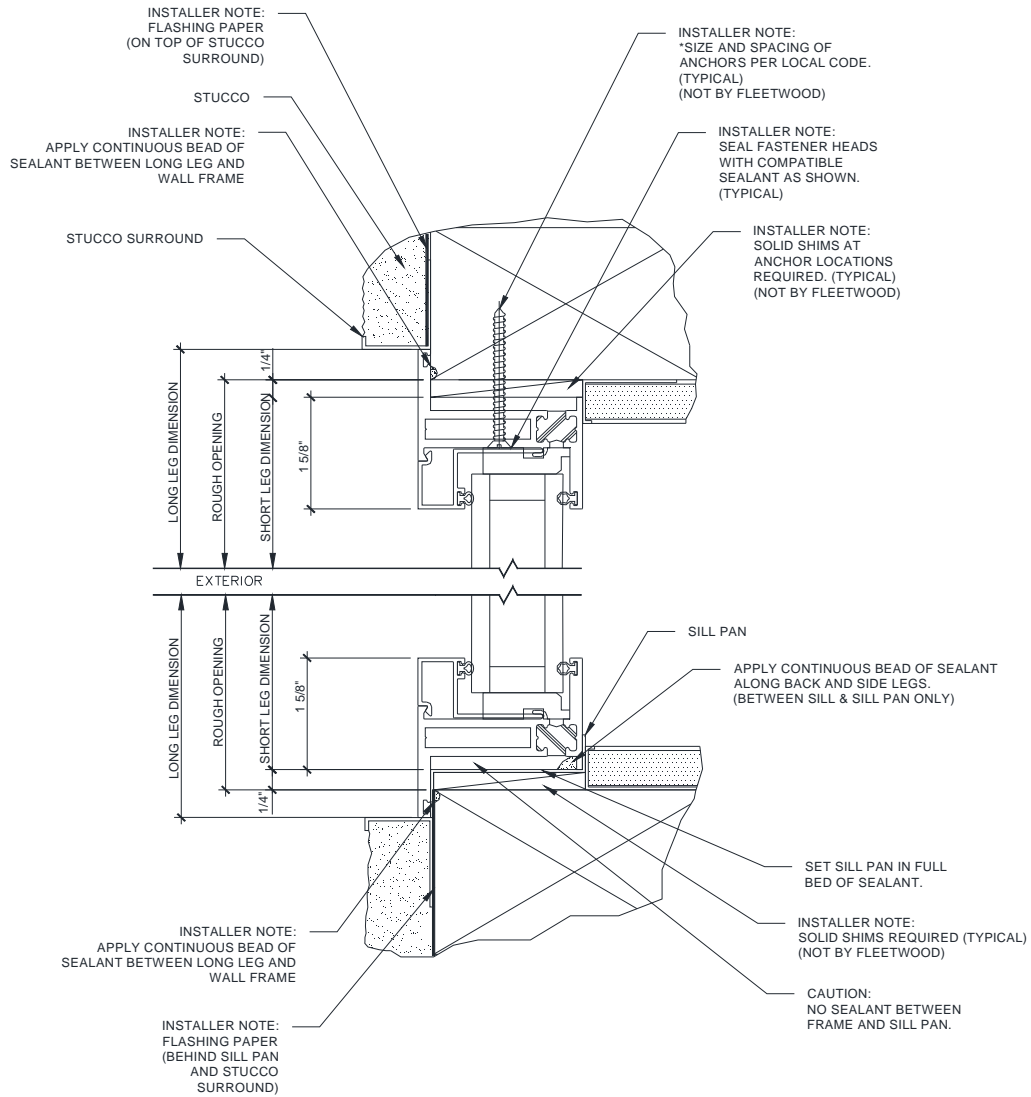

Figure 10:
- Apply a continuous bead of sealant along the back and short leg between the sill and sill pan, and around the entire window frame along the long leg (Figure 10, page 8). Then insert the frame into the opening. Cross-measure and adjust as necessary to achieve a plumb square and level condition, as well as an even reveal around the framed opening. Shim with non-porous, non-absorbent, inorganic shims where needed. Seal all fastener heads with compatible sealant. (Only drill holes through Sill as required for design load)